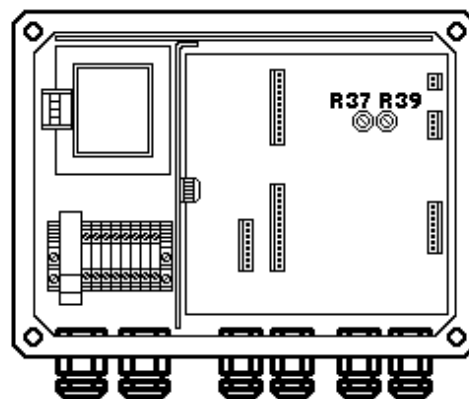

FIGURE 46 – PCB POTENTIOMETERS LOCATIONS
- Increase the torque of the step motor turning the potentiometer **R39** slowly clockwise (see Figure 46 – PCB potentiometers locations) until a satisfactory result is obtained.